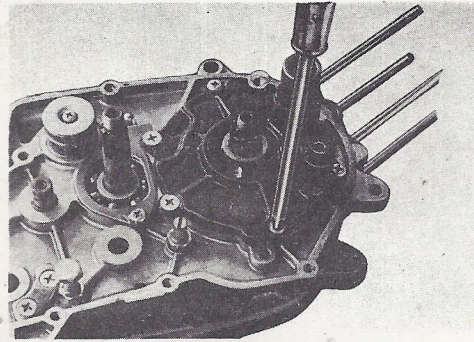

Fig. 3-12-1
- a. Remove the valve cover mounting bolt and then valve cover. (Fig. 3-12-1)